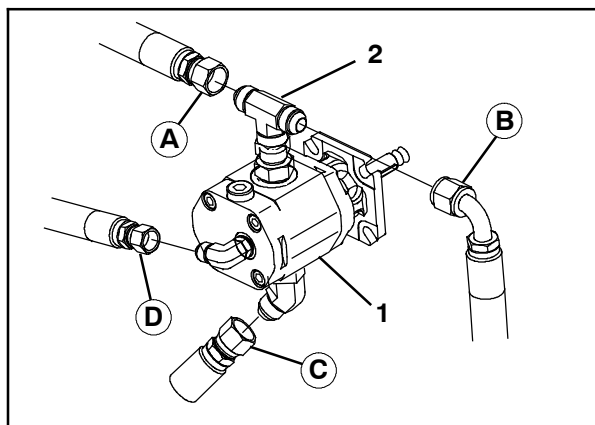

FIG. 14
19. Hold hydraulic hoses (A) and (B) to the t-fitting (10) installed on the hydraulic motor (1) and note distance t-fitting must be adjusted for hose installation. (Fig. 14)
20. Adjust the t-fitting (10) as necessary to connect hydraulic hoses (A) and (B). (Fig. 14)
21. Connect hydraulic hoses (A), (B), (C), and (D) to the scrub fan motor (1). (Fig. 14)